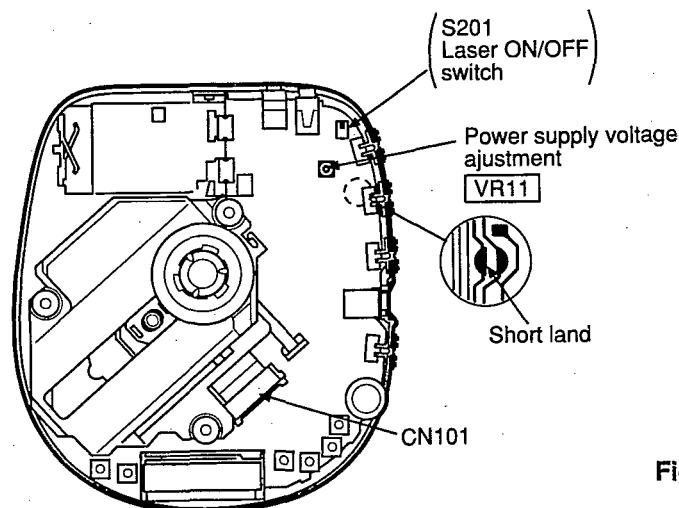

Fig. 1
Fig. 1 is a block diagram showing the compression-shockproofing mechanism, the difference of which from the conventional mechanism is as follows: Input information read out at double speed undergoes data compression (16 bits → 4 bits) by the encoder in the ADPCM (Adaptive Difference PCM) and stored in the external memory; the stored memory information undergoes data elongation (4 bits → 16 bits) by the decoder in the ADPCM and supplied at the normal speed to the D/A converter
Short-circuit the lands of the laser ON/OFF switch (S201) by soldering them. It turns "ON" position. (Refer to below Fig. 1. or printed circuit board and wiring connection diagram for short land location on page 26.)
2. Take care to connect CN101 (as shown in Fig.1).
2. Connect the AC adaptor cord to the DC (IN) port and move the PLAY switch to the ON position. Anti-shock is set in OFF position. (Use a new dry cell battery or a rechargeable battery that is full charged.)
4. Adjust **VR11** on the P.C.B. at $3.12 \pm 0.02V$, as shown in Fig.1.